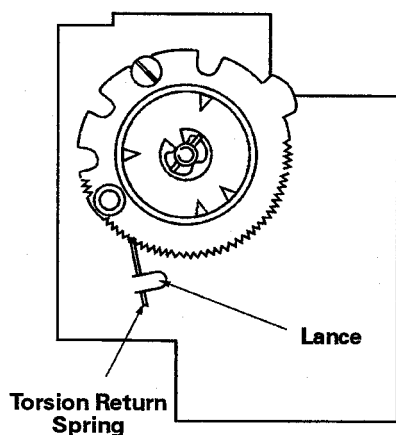

Figure 2-14
15. Unhook torsion return spring from lance on timer mounting bracket, *see Figure 2-14.*